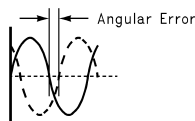

**Figure 21. Expected Input Signal Range**
**Figure 21** shows the expected input signal range. Note that the common mode input voltage,  $V_{CM}$ , should be 1.5V. Using  $V_{RM}$  (pin 45) for  $V_{CM}$  will ensure the proper input common mode level for the analog input signal. The peaks of the individual input signals should each never exceed 2.6V. Each analog input pin of the differential pair should have a peak-to-peak voltage equal to the reference voltage,  $V_{REF}$ , be 180° out of phase with each other and be centered around  $V_{CM}$ . The peak-to-peak voltage swing at each analog input pin should not exceed the value of the reference voltage or the output data will be clipped.